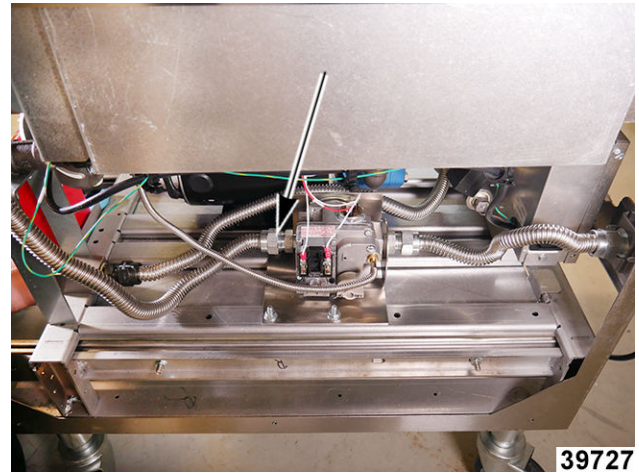

Fig. 26
6. Disconnect gas line at combination valve, leave gas line connected to burner assembly (Fig. 26).
17. Connect gas line to gas valve (Fig. 26).